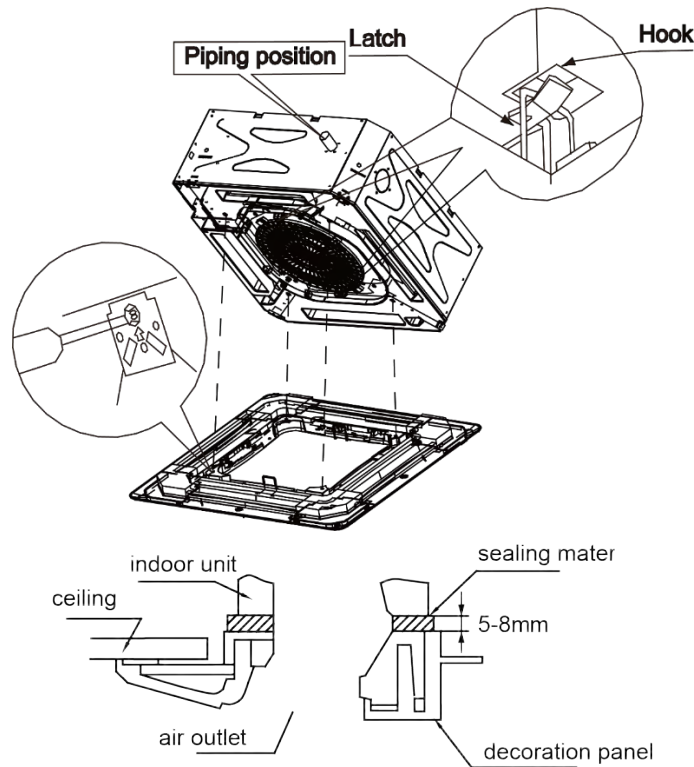

Fig.4.4.5
- (2) Temporarily hang the panel to body (there are four hangers on each corner of the panel, hang the hangers to corresponding hooks on the body), as shown in Fig.4.4.5.
- (3) Detach the air inlet grille from panel, make a wiring connection of signal receiver. Notice that the connection wire not stuck in the middle of body and panel, or may cause air leakage and lead to condensation water drop.
- (4) Tighten 4 screws at each corner of panel respectively, fix the panel on the body firmly.
(5) After tightening screws, reinstall the air inlet grille.